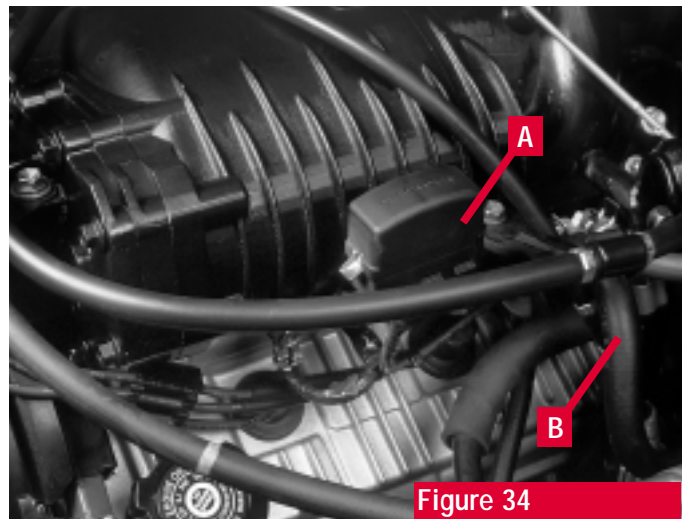

Figure 34
11. Install the diagnostic plug bracket and the ground connector to the driver's side of the supercharger. Install the diagnostic plug (**see arrow A, figure 34**).
12. Install the fuel return line bracket to the driver's side of the manifold (**see arrow B, figure 34**).